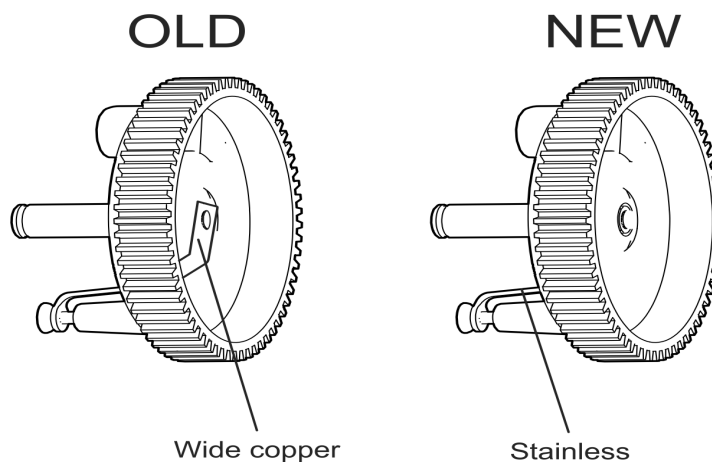

Figure 6-8. Old and New Distributor Gears
2. Inspect and treat the distributor block (21) according to instructions in Section 7-2.3.
3. Inspect the distributor gear assembly (25) and carbon brush (26):
- a. Wipe the distributor gear and axle (25) free of all oil film and other contaminants. Inspect for damage or unusual wear; replace as necessary.
- b. Determine if the gear is the old or new design. The new gear has a narrow stainless strap connected to the electrode in place of a wide copper strap (Figure 6-8). If gear is old design, discard gear and replace with new type.